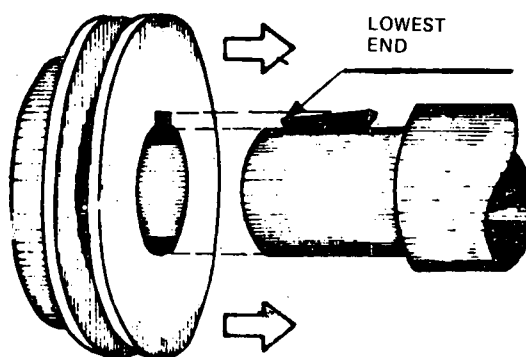

Fig. 10
- a) Replace the key in the keyway of the shaft, slightly tilting it forward (Fig. 10).